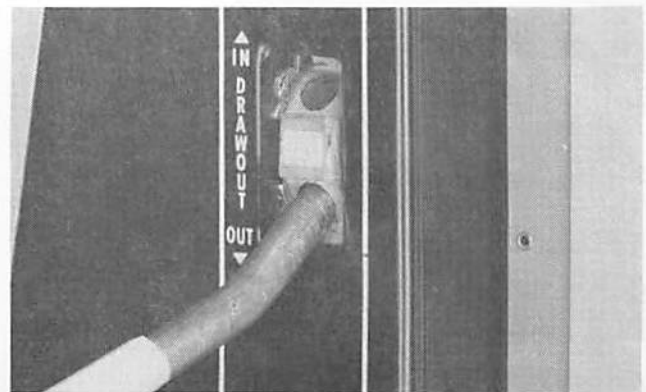
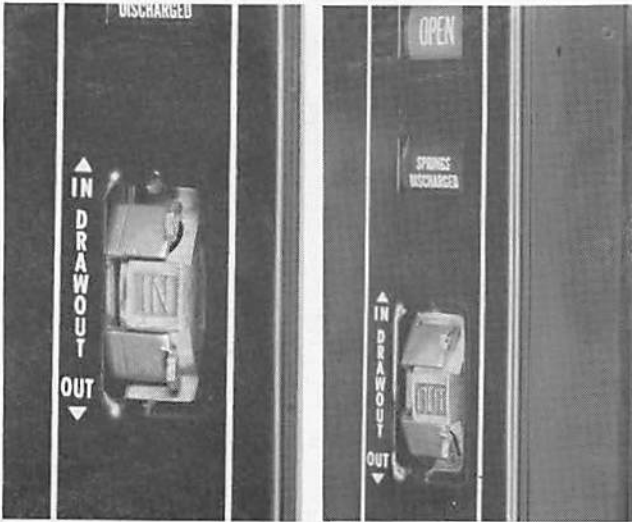

Figure 8
Figure 9 & Figure 9A
12. Push drawout interlock to left, insert drawout lever 1101-9251, (Figure 8) into the bottom hole of the drawout mechanism and, with an up-stroke, rack breaker into the TEST position. Remove drawout lever, drawout interlock plate should snap into position completely covering the holes.
- To put circuit breaker into service push drawout interlock to left, insert drawout lever in the bottom hole of the drawout mechanism (Figure 8) and with an upward stroke rack breaker into operating position. Remove drawout lever, interlock plate should snap in position and red IN appears. (Figure 9 and 9A).